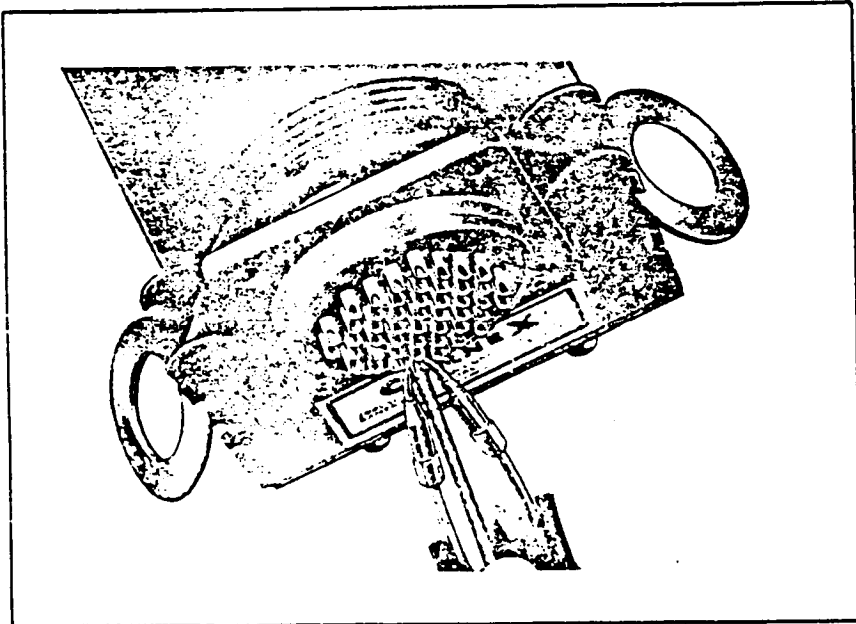

Figure 11
a. Position the connector as shown in Figure 11. Cutaway sides of solderwells should be up. If necessary, the wire being attached should be supported to avoid putting side strain on the connector shell and insert.